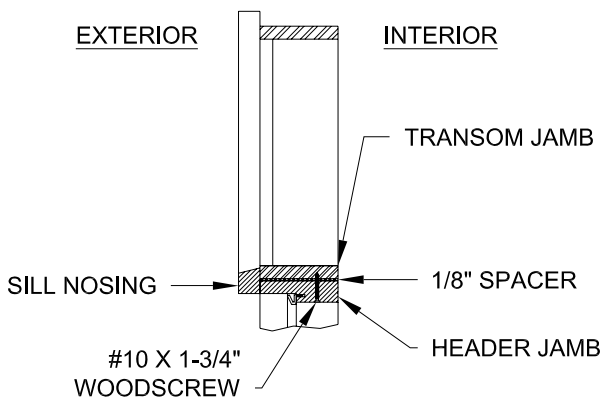

**Fig. 2a**
**To install a pre-hung / transom combo:** When installing the transom with a pre-hung, also refer to pre-hung installation instruction that came with the pre-hung. Apply a generous amount of silicone exterior sealant on the bottom side of the transom jamb and on the inside of the transom brick molding, as shown in Fig. 2a. Make sure that the transom's brick molding is flush against the outside edge of the header on the pre-hung system. Once the transom is centered, flush and plumb, fasten together with (5) #10 X 1-3/4" wood screws, as shown in Fig. 2b.